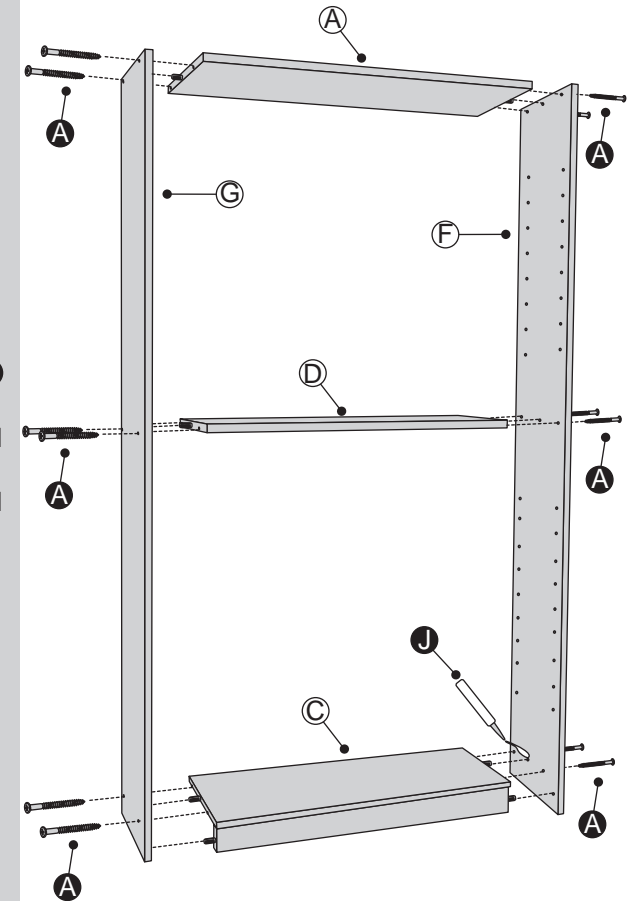

fig. 5
1. Place a small amount of Glue **J** into the dowel holes. Then use Screws **A** to fix the Bottom Panel **C**, Middle Support **D** and Top Panel **A** onto the Left Side Panel **G** and Right Side Panel **F**. See fig. 5.